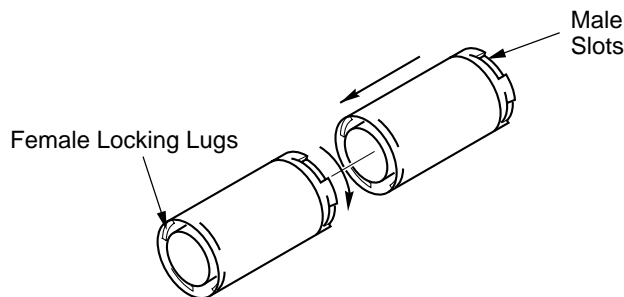

Figure 8 - Vent Pipe Connections
Twist-Lock Procedure: The female ends of the pipes have locking lugs (indentations). These lugs will slide straight into matching slots on the male ends of adjacent pipes. Push pipe sections together and twist one section clockwise approximately one-quarter turn until the sections are fully locked (see Figure 8). **Note:** Horizontal runs of vent must be supported every three feet. Use wall straps for this purpose.
2. Assemble the desired lengths of pipe and elbows necessary to reach from the fireplace flue up through the firestop. Be sure all pipe and elbow connections are fully twist-locked (see Figure 8, page 8).